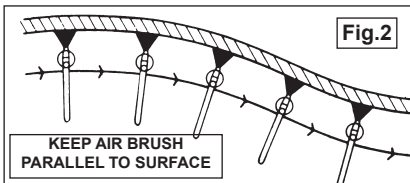
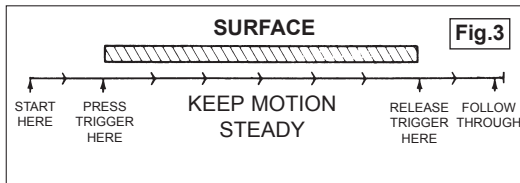

Fig.2
Fig.3
- 4.4. Turn the air ON and test your spray on a test panel to get the "feel" of your air brush. Holding the air brush about 6 inches from the surface press the trigger (Fig.1.2) down and gradually draw back moving the air brush at a steady rate, parallel to the surface, (Fig.2). For the best result start the motion before pressing the trigger and a follow through motion after releasing the trigger, (Fig.3).